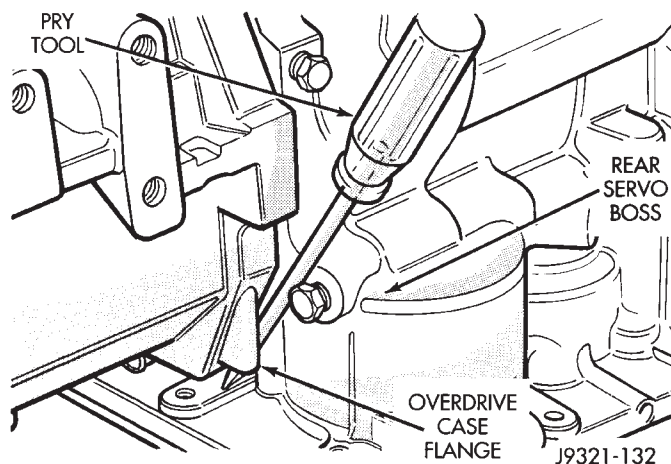

Fig. 2 Loosening Overdrive Unit From Transmission
- (5) Loosen overdrive unit. Use pry tool to start overdrive unit off intermediate shaft and transmission case. Position pry tool between flange on overdrive case and transmission rear servo boss (Fig. 2).